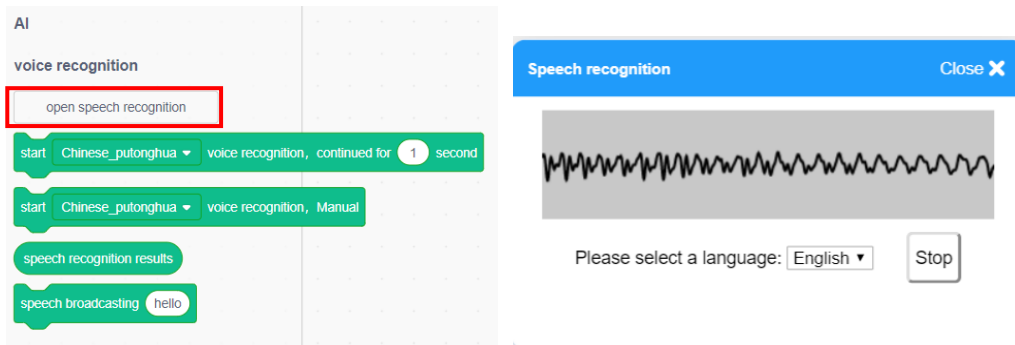

Figure 5.1 Opening the recognition window
Step 1: Add the "AI" extension module, click "**open speech recognition**" at the speech recognition section, and test the speech recognition results to ensure that the voice can be collected and recognized normally, as shown in Figure 5.1.